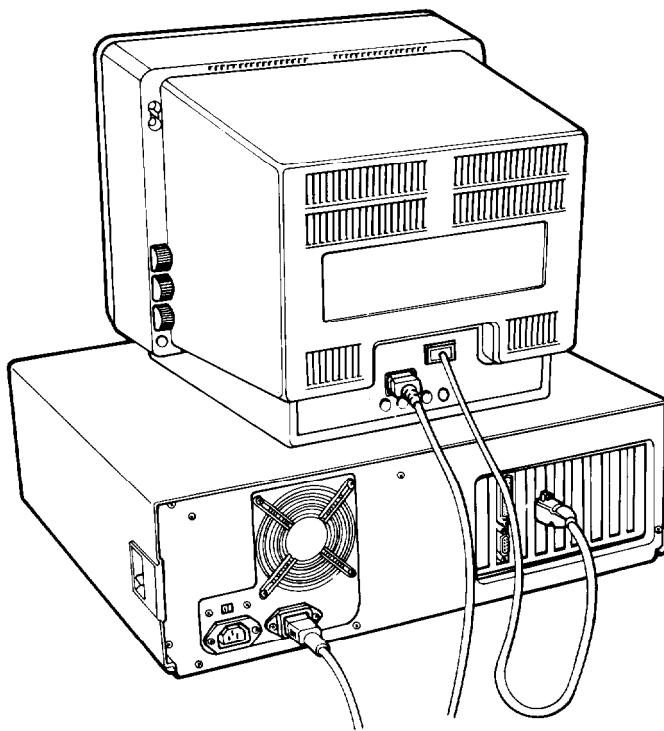

Figure 1-5. Connecting the monitor
3. Connect the appropriate end of the monitor cable to your monochrome or color/graphics card connector at the back of the main unit, as shown in Figure 1-5. If the plug has retaining screws, tighten them with a screwdriver.